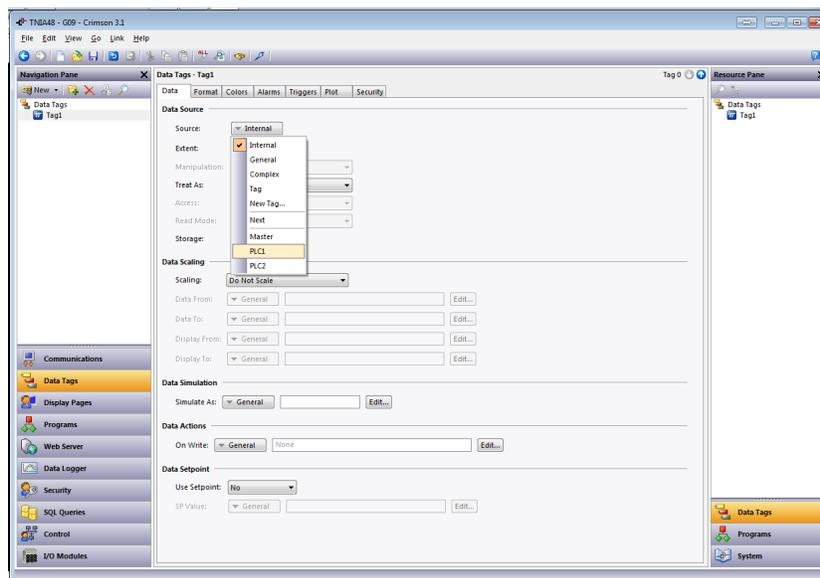

Figure 14.
4. Click *Internal* next to the *Source* parameter and select the ROC device; PLC1 in this example. The Select TLP popup appears, as shown in Figure 14.